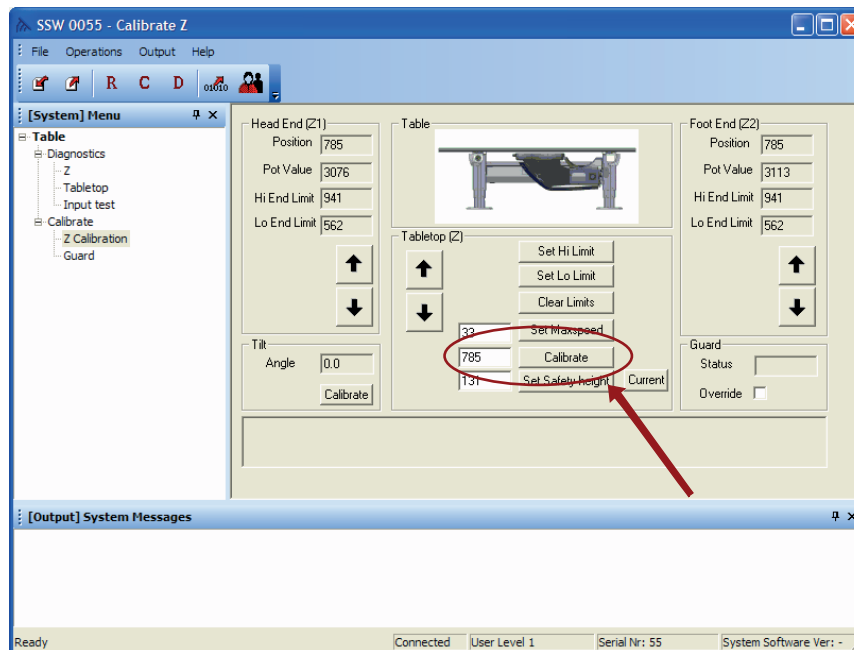

Fig. 5-158 Calibration Table height
6. Enter the distance (in millimeters) in Edit box beside the Calibrate button of the table top (Z), see Fig. 5-158 *Calibration Table height*.
8. Press the reset (R) button.